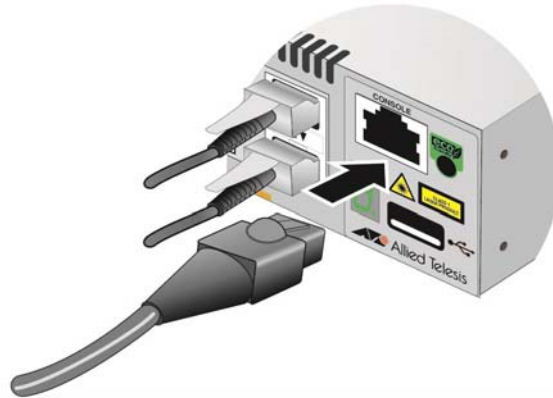

Figure 55. Connecting the Management Cable to the Console Port
1. Connect the RJ-45 connector on the management cable to the Console port on the front panel of the switch, as shown in Figure 55.